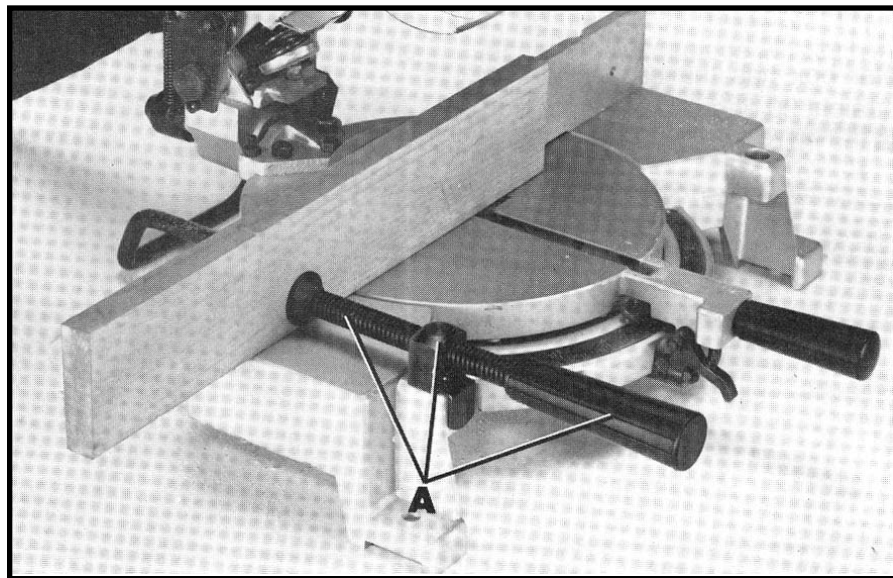

Fig. 33
3. Place the workpiece on the table and hold or clamp it firmly against the fence. Fig. 33, illustrates the standard equipment work clamp (A) being used to clamp a workpiece to the fence. The clamp (A) can also be used on the right side of the machine.
5. **WARNING:** If the workpiece you are cutting would cause your hand to be within 4 inches of the saw blade, the workpiece should be clamped in place before making cut. See Fig. 33.